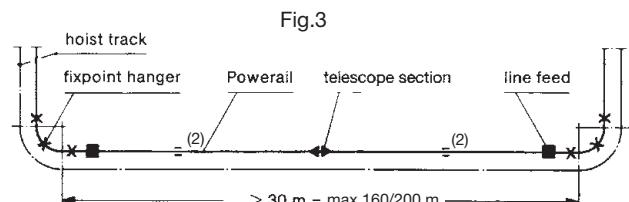

Fig.3
3. If the powerail length between two curves is more than 20 m and the temperature fluctuates considerably (see Fig. 3).